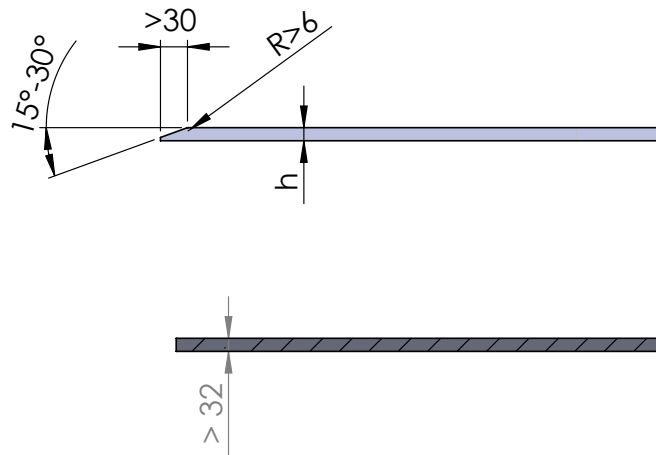

Figure 85
- See figure 85 for the main dimensions of wearstrips and their positioning.